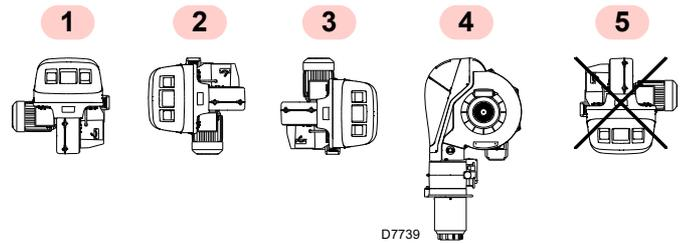

Fig. 12
- the category of the appliance/countries of destination (I).
- The burner is designed to operate only in positions **1**, **2**, **3** and **4** (Fig. 12).